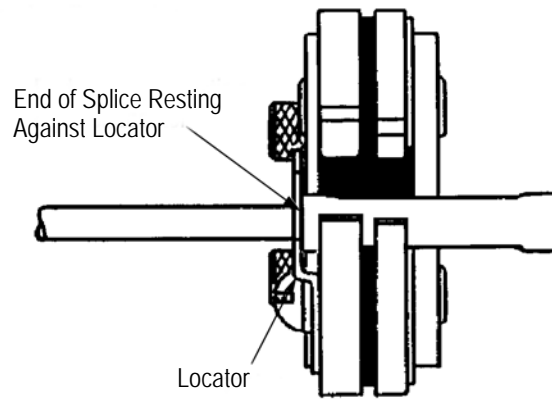

Figure 3
- Locate the splice—with the wire inserted—into the crimping jaws, as shown in Figure 3. The end of the splice should rest against the locator.